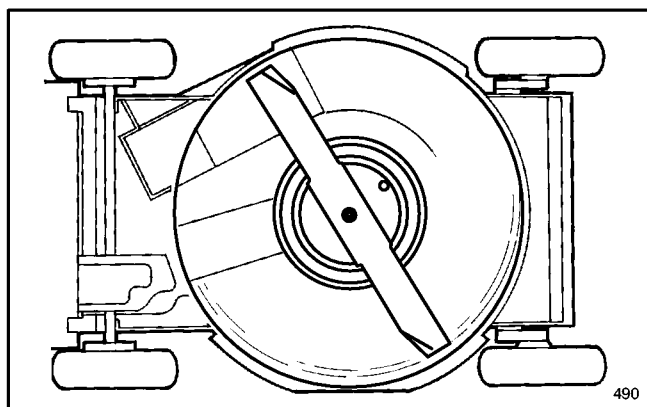

Figure 30
3. Tip mower on its left side (Fig. 30). Avoid rotating blade because starting problems may result.